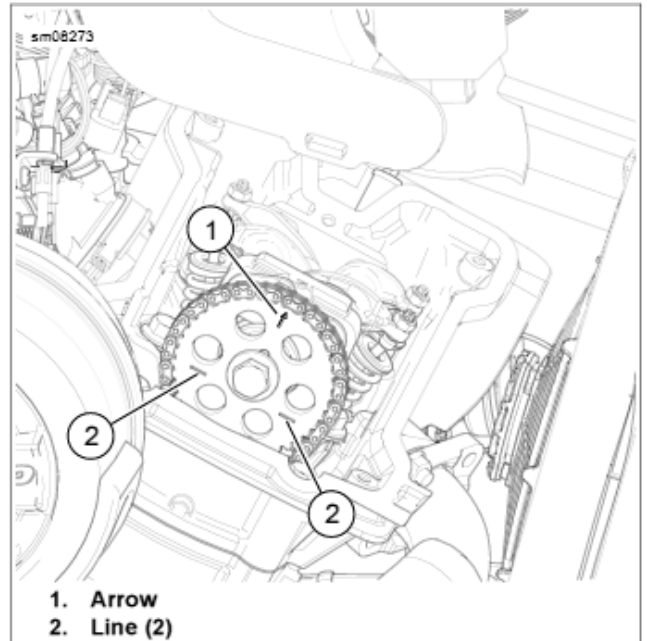
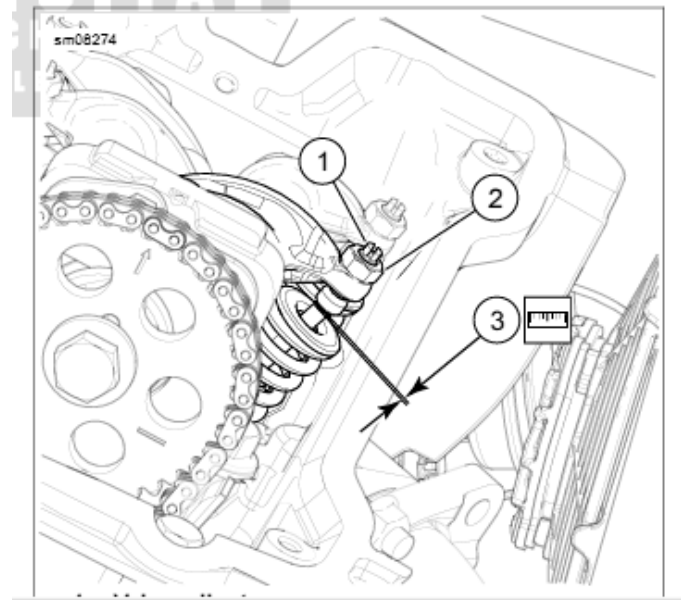

Figure 2-30. Cam Timing Marks
Figure 2-31 Valve adjuster
1. See figure 2-30. rotate engine so that the cylinder to be adjusted is on TDC. Top Dead Center.
2. Refer to cam timing marks (1),(2)
3. See figure 2-31. loosen jamnut (2) back off adjuster (1) do not remove jamnut or adjuster , only loosen.
5. Adjust the valves using TAPPET WRENCH HD-51502 and feeler gauges. Figure 2-31